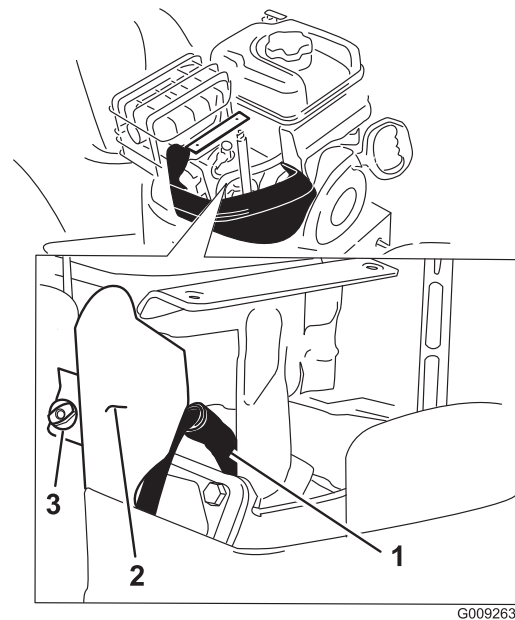

Figure 47
- Remove the bracket thumb screw and the bracket (Figure 47).
- Clean around the base of the spark plug (Figure 47).